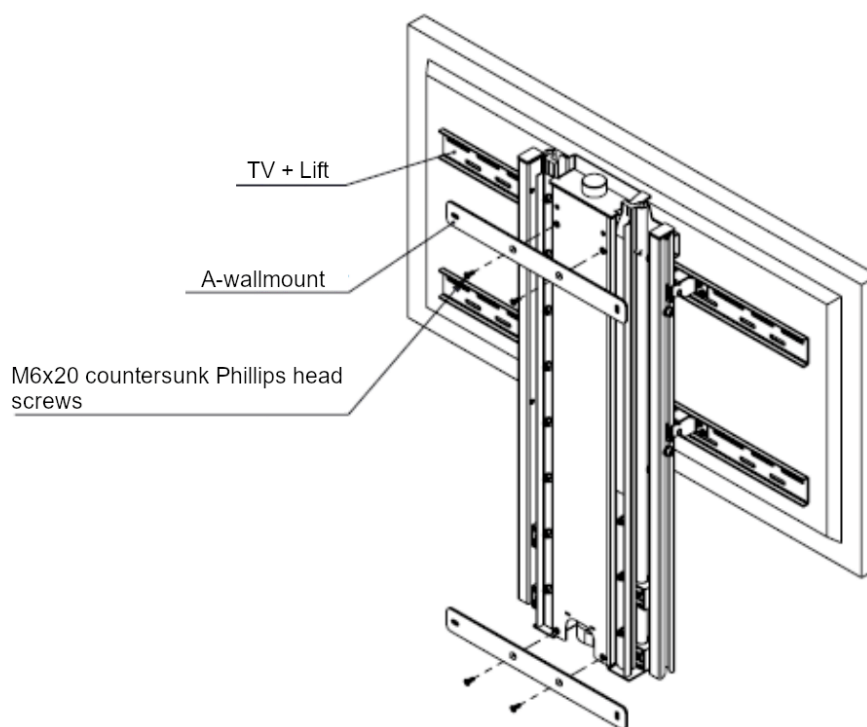

Fig.10.
2. Screw the two wall hangers to the lift using M6 Phillips head countersunk screws as shown in Fig.10.